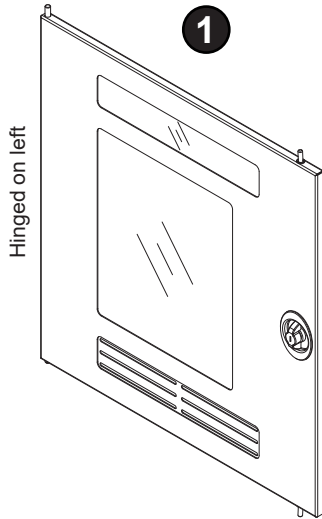

Figure 3.2
1. Remove the door using the quick-release lever. **Figure 3.2.**